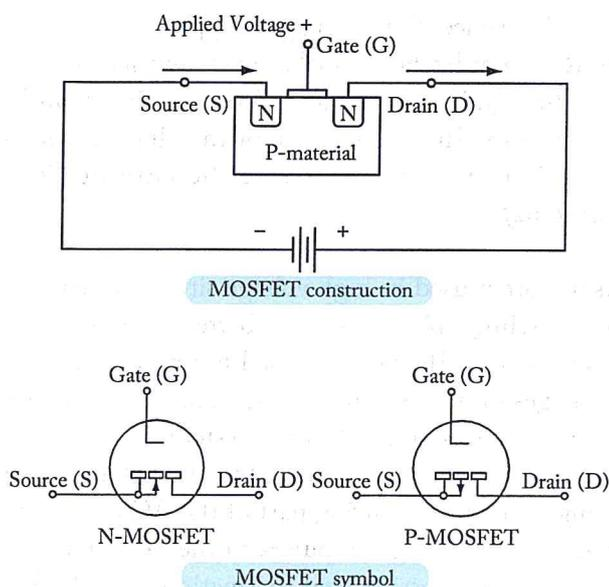

Figure 1-59. General construction and schematic symbol of MOSFET transistor.
*Figure 1-59* illustrates the general construction and the schematic symbol of the MOSFET transistor. The biasing arrangement for the MOSFET is essentially the same as that for the JFET. The term "enhancement" comes from the idea that when there is no bias voltage applied to the gate (G), then there is no channel for current conduction between the source (S) and the drain (D). By applying a greater voltage on the gate (G), the P-channel will begin to materialize and grow in size. Once this occurs, the source (S) to drain (D) current will increase. The schematic symbol reflects this characteristic by using a broken line to indicate that the channel does not exist without a gate bias.